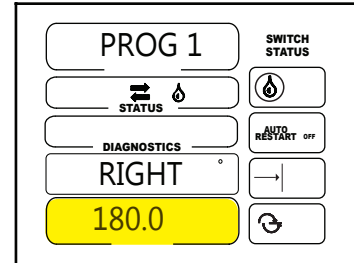

Figure 56-1
4. Set the right angle of the sector. See figure 56-1.